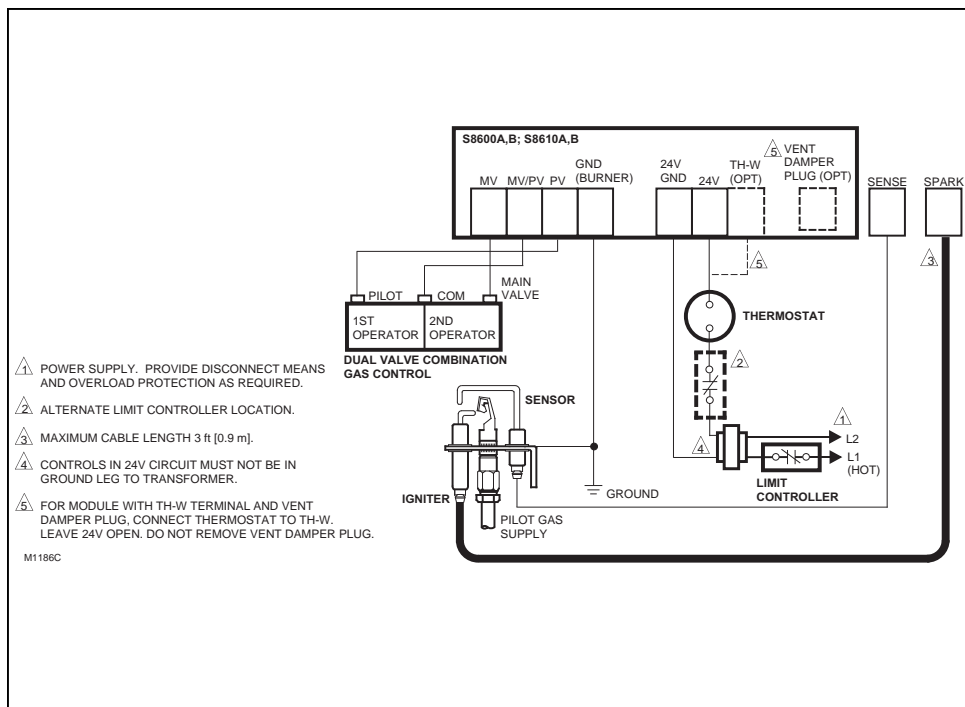

Fig. 3—S8600A,B; S8610A,B connections in a heating system with an atmospheric burner.
- Figs. 3 and 4 show S8600A,B; S8610A,B with separate sensor and igniter, with and without the D80D vent damper.
- Figs. 5-10 show S8600F,H,M; S8610F,H; S8660D; and S8670D in a variety of systems, with alternate connections for modules with vent damper plug. Remember, however, that a vent damper should not be used in an fan-assisted combustion system or an LP gas system and that the vent damper plug must not be removed except to connect the module to a D80D with the plug-in cable. S8600A,B; S8610A,B can be substituted in these drawings by simply connecting the igniter and sensor as shown in Figs. 3 and 4.